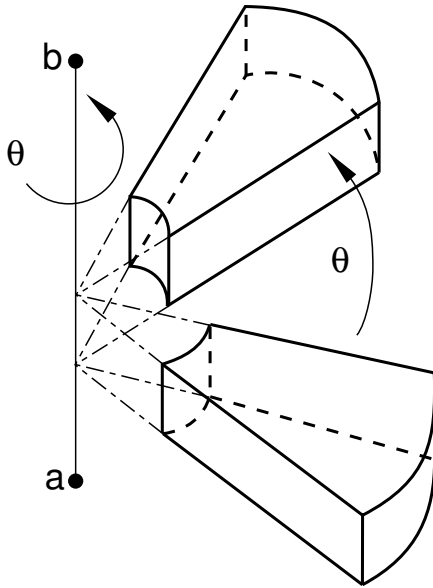

Figure 1: Rotation of an old-model mesh.
1. *X*-coordinate of point *a* on the axis of rotation (see Figure 1).